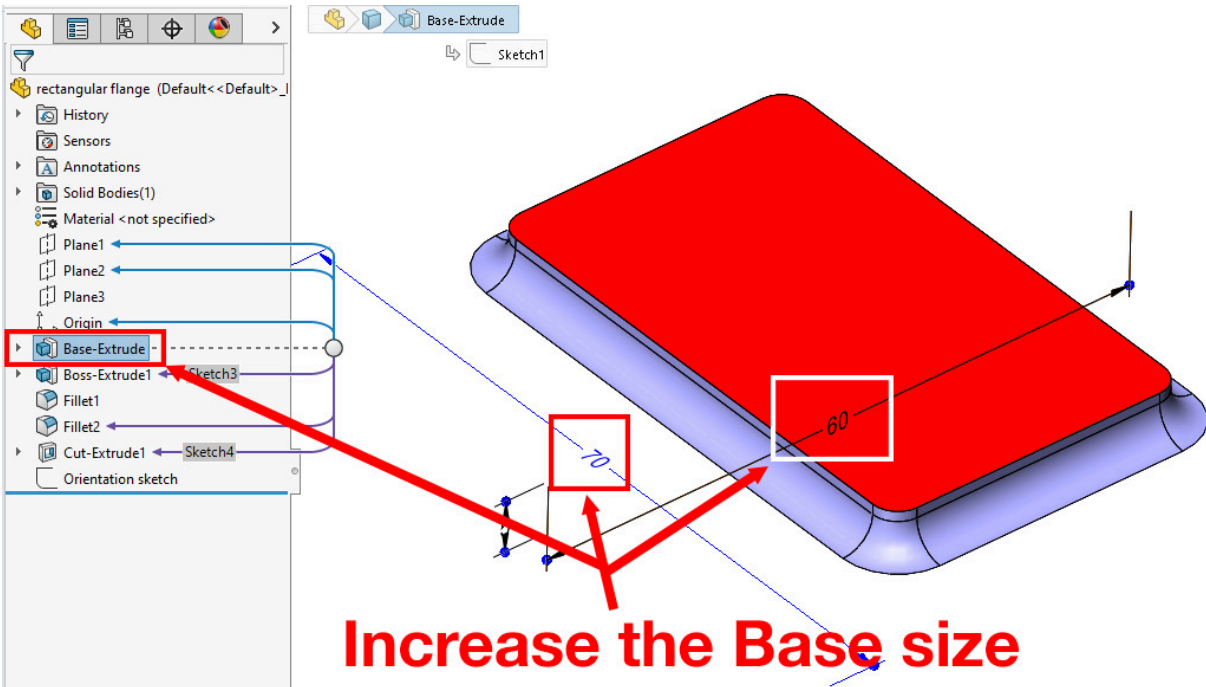

Figure 10.10: Increasing the base size
6. So, edit the **Base-Extrude** feature or sketch and add **20mm** to the long edge and **10mm** to the short edge, as illustrated in *Figure 10.10*.